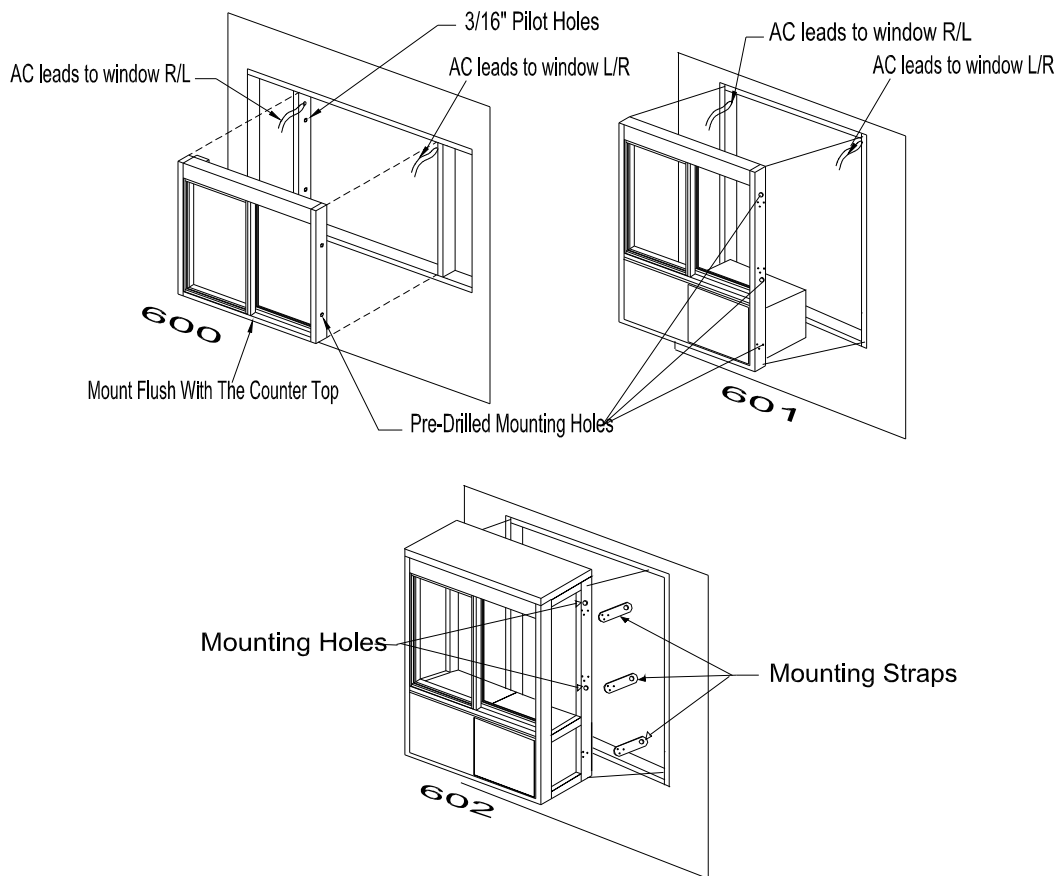

Figure 5
- Using the window mounting holes as a template, drill a quantity of 4 – 3/16" (5mm) diameter holes for mounting. (See Figure 5)